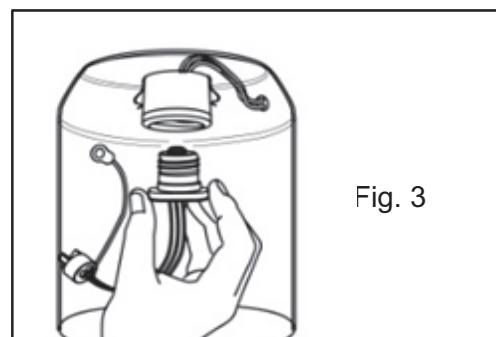

Fig. 3
3) Screw E26 (B) socket adapter into the socket inside the Rough-in section (Figure 3).